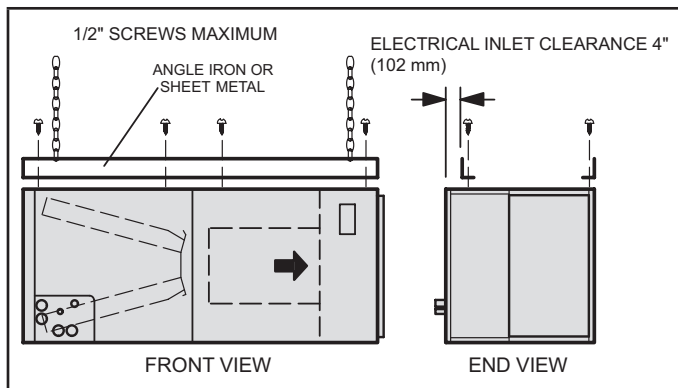

FIGURE 3. Suspending Horizontal Unit
5 - If the unit is suspended, the entire length of the cabinet must be supported. If you use a chain or strap, use a piece of angle iron or sheet metal attached to the unit (either above or below) to support the length of the cabinet. Use securing screws no longer than 1/2 inch (12.7mm) to avoid damaging the coil or filter as illustrated in Figure 3. Use sheet metal screws to connect the return and supply air plenums as required.
- 13 - If suspending the unit, it must be supported along the entire length of the cabinet. If using chain or strap, use a piece of angle iron or sheet metal attached to the unit (either above or below) so that the full length of the cabinet is supported. Use securing screws no longer than 1/2" to avoid damage to coil or filter, as illustrated in figure 3. Connect return and supply air plenums as required using sheet metal screws.